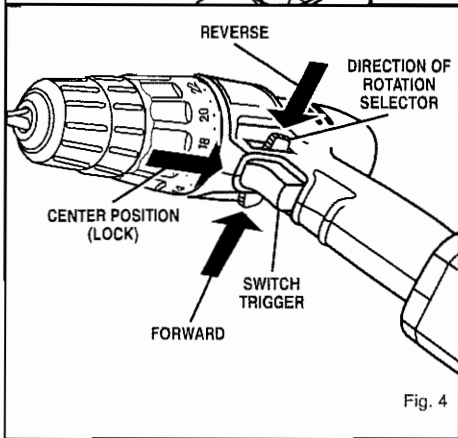

Fig. 4
See Figure 4.
- Place the direction of rotation selector in center position. See Figure 4.
- Place the direction of rotation selector in center position. *See Figure 4.*
*See Figure 4.*
- Place the direction of rotation selector in center position. See Figure 4. This will turn off the power to your drill.
- Lock the switch trigger by placing the direction of rotation selector in center position. See Figure 4.